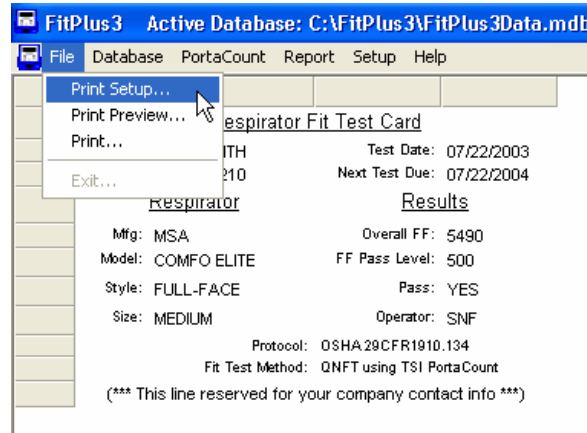

Figure 10-5. Card Layout Screen
- From the card layout screen (Figure 10-5) pull down the **File** menu and select **Print Setup**.